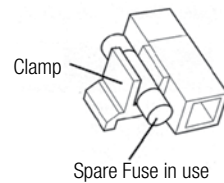

FIGURE 3
8. Place the spare fuse in to the clamp (Fig. 3).